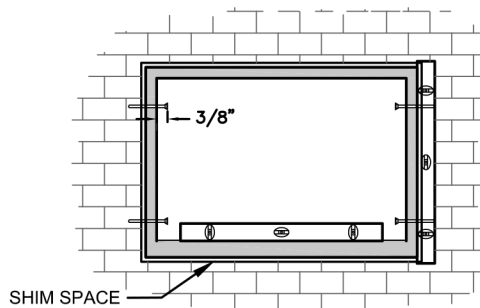

Figure 2
3. Insert the window frame and use approved shims to level sill. Center frame vertically and horizontally in opening. (Figure 2)
4. After the window is properly located in the opening and plumbed inside & out and side to side, insert four (4) installation screws. One (1) at the top & bottom of each jamb. Leave approximately 3/8" for adjustment. (Figure 2) Shim and Tighten screws.